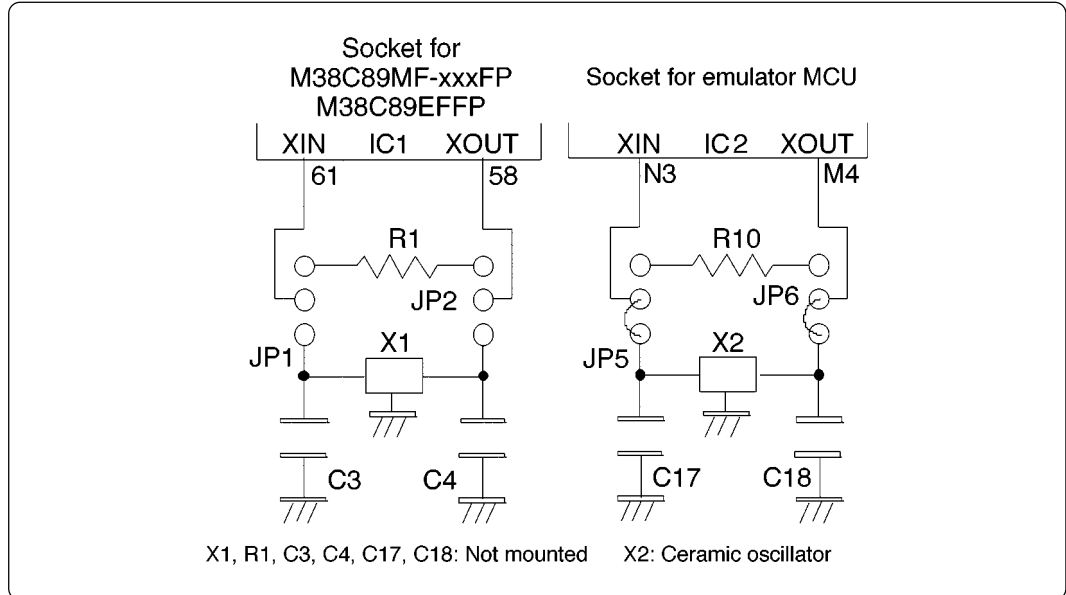

Figure 5.1 Main clock generator circuit
The main clock of 4.0 MHz is mounted (X2 only). Figure 5.1 shows the main clock generator circuit.
- (1) Cut jumper JP4. (When JP4 is cut, the OSCSEL pin becomes high.)
- (2) To enable RC oscillation in IC1, set resistor R1 (see Table 4.3) in jumpers JP1 and JP2 described in Figure 5.1. To enable RC oscillation in IC2, set resistor R10 (see Table 4.1) in jumpers JP5 and JP6 described in Figure 5.1.